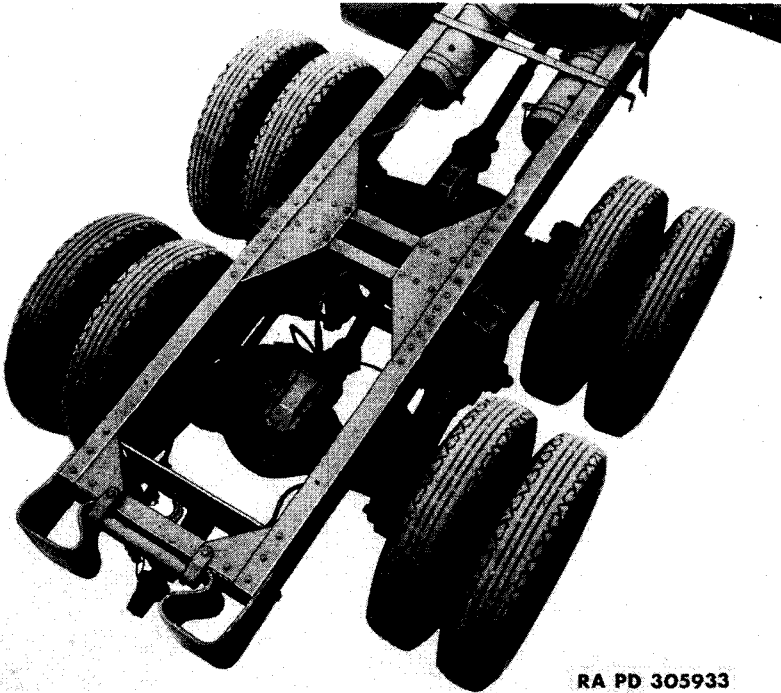

Figure 116—Rear Axle Bogie Installed
(1) **REMOVE TUBE NUT.** Support cross tube on two hydraulic jacks (fig. 116). Remove wheels (par. 126). Unscrew and remove